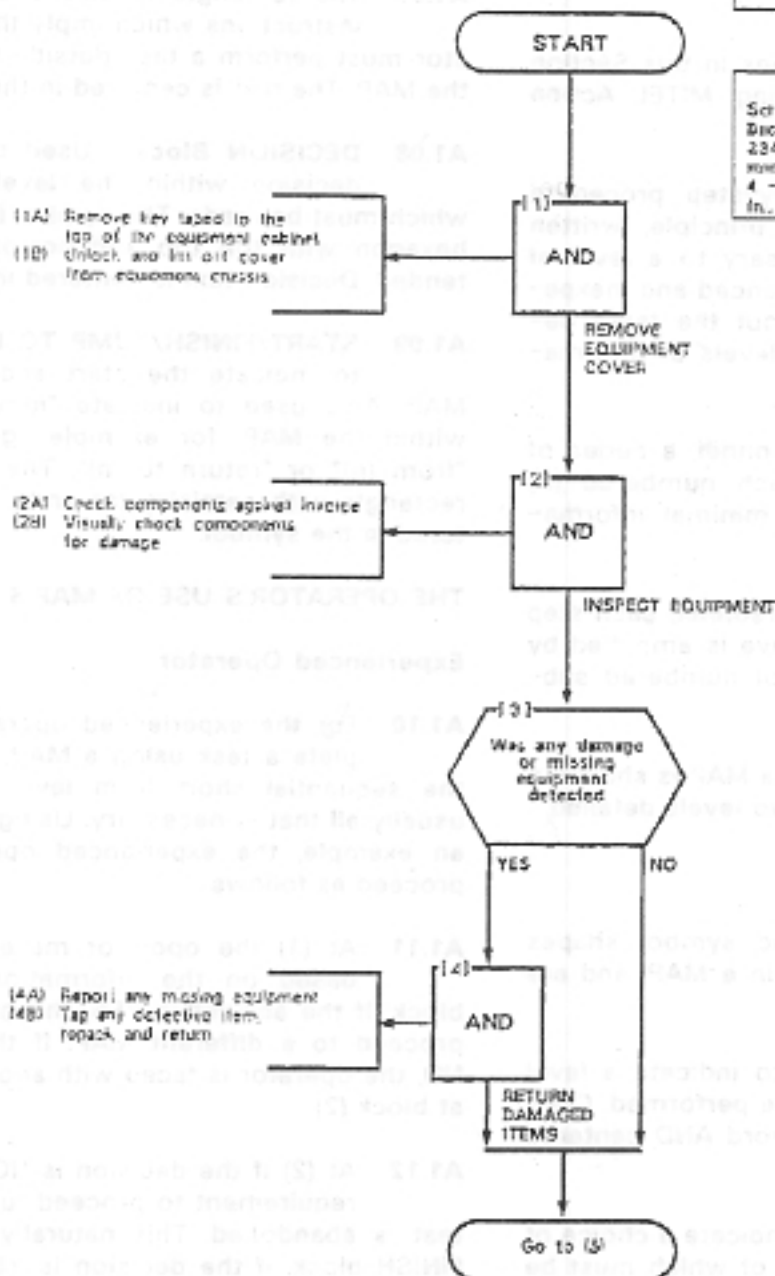

Fig. A1-1 Typical MAP Page
**A1.03** A typical example of a MAP is shown in Fig. A1-1, with the two levels detailed.
**A1.10** For the experienced operator to complete a task using a MAP, reference to the sequential short form level one step is usually all that is necessary. Using Fig. A1-1 as an example, the experienced operator would proceed as follows.
**A1.11** At (1) the operator makes a decision based on the information within the block. If the answer is YES, the operator must proceed to a different MAP. If the answer is NO, the operator is faced with another decision at block (2).
**A1.12** At (2) if the decision is NO, there is no requirement to proceed further and the test is abandoned. This naturally results in a FINISH block. If the decision is YES, the operator proceeds to (3) and (4) in succession, i.e. dials the DID station number and completes the call to the check extension.
A1.14 Using Fig. A1-1 as an example, the path followed should be: